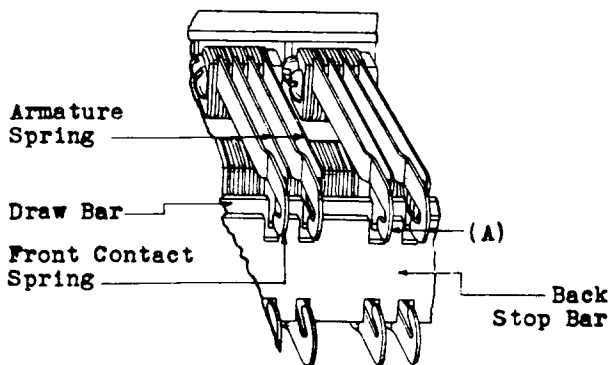

Fig. 11
2.14 Front Contact Spring Tension: Fig. 11 (A) -